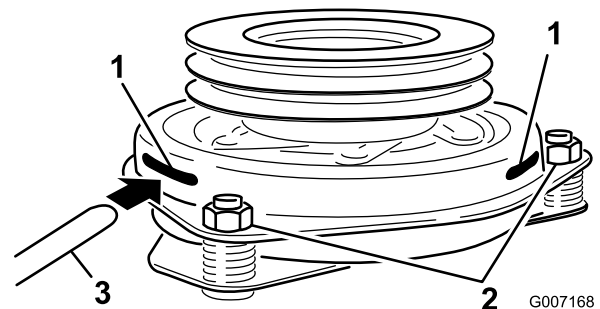

Figure 56
9. Insert a 0.015–0.021 inch (0.381–0.533 mm) feeler gauge through one inspection slot in the side of the assembly. Make sure it is between the armature and the rotor friction surfaces (Figure 56).
10. Tighten the lock nuts until there is slight binding on the feeler gauge but it can be moved easily within the air gap (Figure 56).